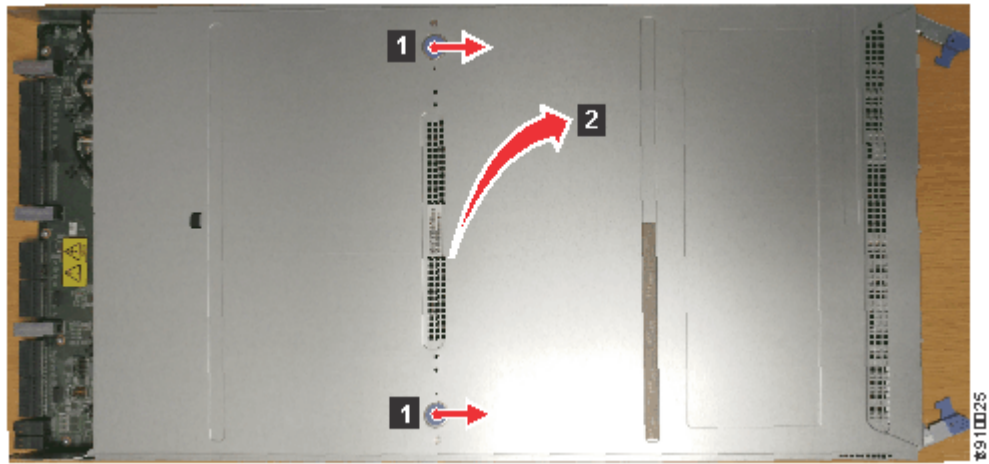

Figure 87. Removing the node canister cover
3. Open the cover of the node canister by depressing the recessed, blue touch points on the lid (1) and sliding the lid away from you (2), as shown in Figure 87 on page 130.